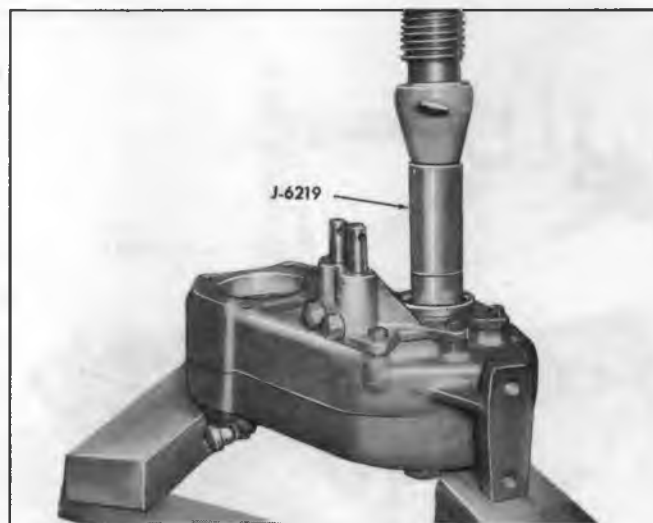

Fig. 14D—Installing Front Output Shaft Front Bearing
6. Position front bearing on shaft. Supporting rear of shaft, press bearing into position using Tool J-6219 as shown in Figure 14D. Tap front of shaft rearward to reposition rear bearing cup.